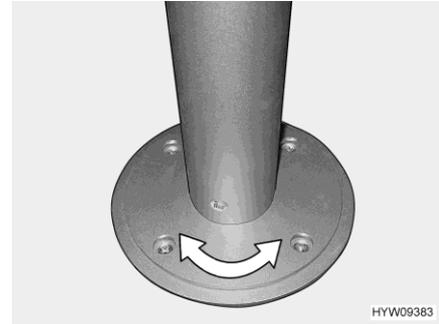

Fig. 56 Pillar table leg (rotatable)
- Rotate table top to the desired position. In order to do this, you need a little effort, because the table top rotates against the friction resistance on the pillar table leg (Fig. 56).